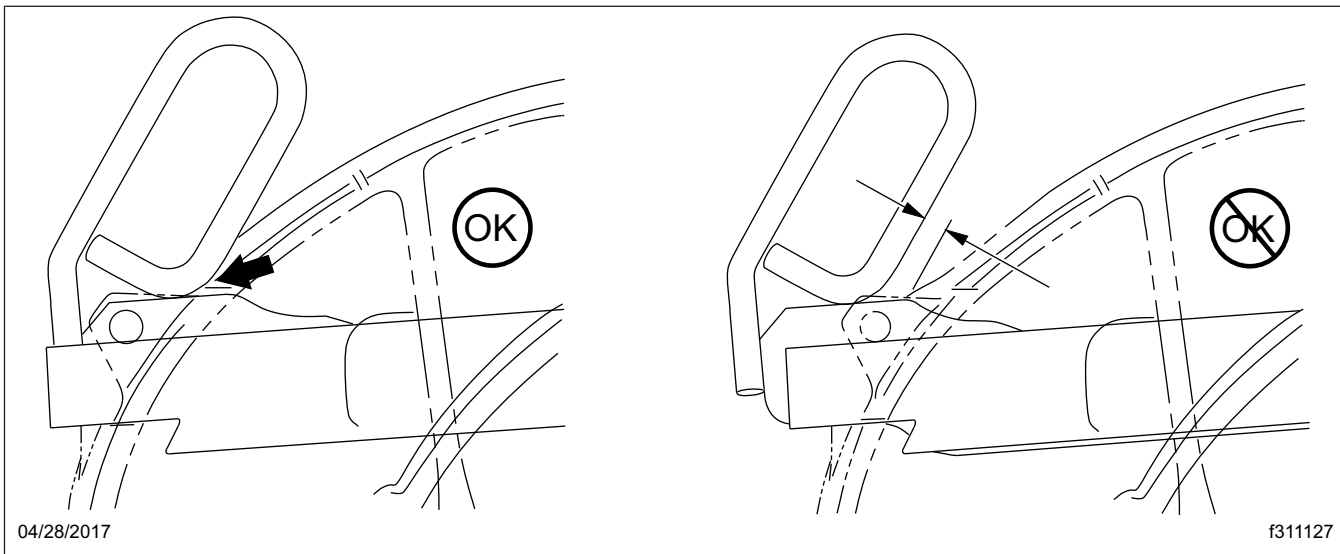

Fig. 18.9, Jost Release Handle Locked
- Ensure that the release handle is in the locked position adjacent to the casting. See Fig. 18.9.